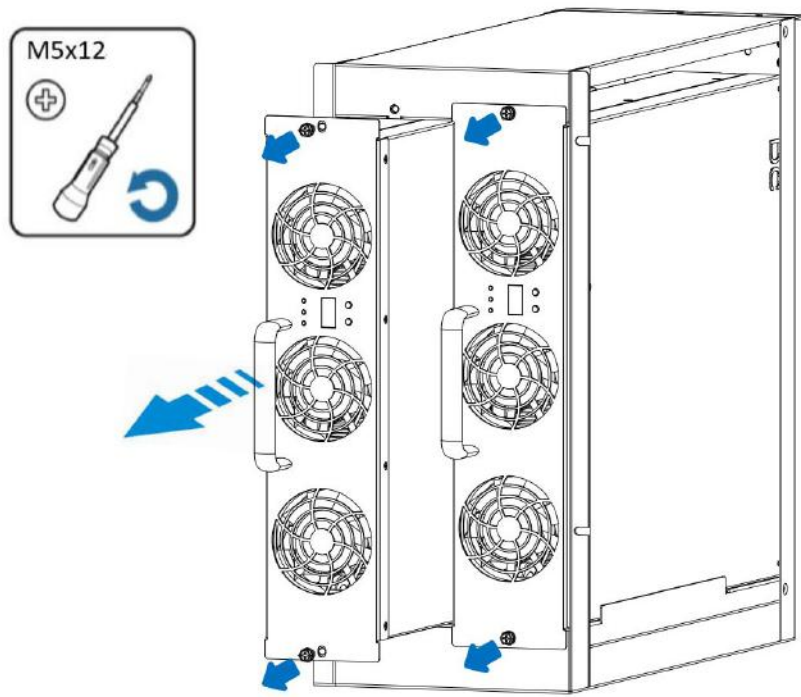
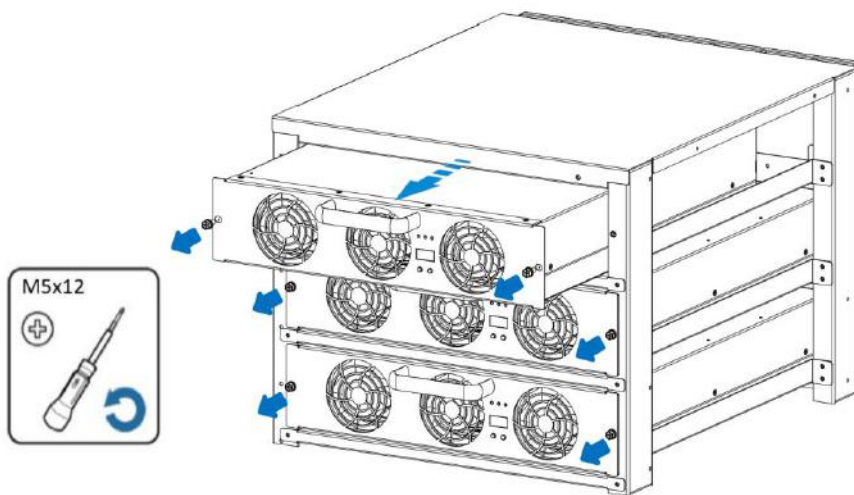

Figure 5-1 Module taking out diagram
Figure 5-2 Module taking out diagram
- Disconnect the faulty module AC input circuit breaker, and remove the two upper and lower fixing screws on the panel, as shown in Figure 5-1 and Figure 5-2.